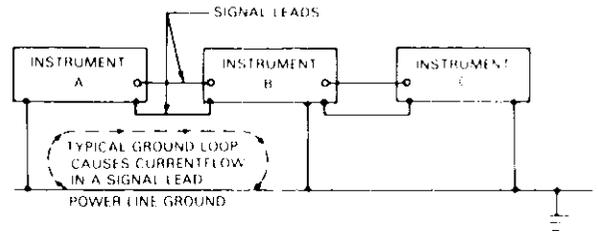

Figure 2-12. Power Line Ground Loops
**Ground Loops.** When two or more devices are connected together, care must be taken to avoid unwanted signals caused by ground loops. Ground loops usually occur when sensitive instrumentation, such as the Model 181, is connected to other instrumentation with more than one signal return path. One of these return paths may be power line ground. The resulting ground loop causes current to flow through the instrument LO signal leads and then back through the power line ground (See Figure 2-12). Because of this circulating current, a small but undesirable voltage is developed between the LO terminals of the two instruments. This voltage will be added to the source voltage, upsetting the measurement.